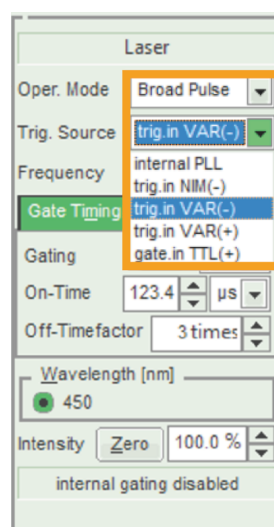

Figure 16: trigger source options under selection box "Trig. Source"
- After selecting one of the Pulse Modes, a new selection box called **Trig. Source** will appear below the mode selection box, see Fig. 16. The following trigger modes are available for the UNICO: